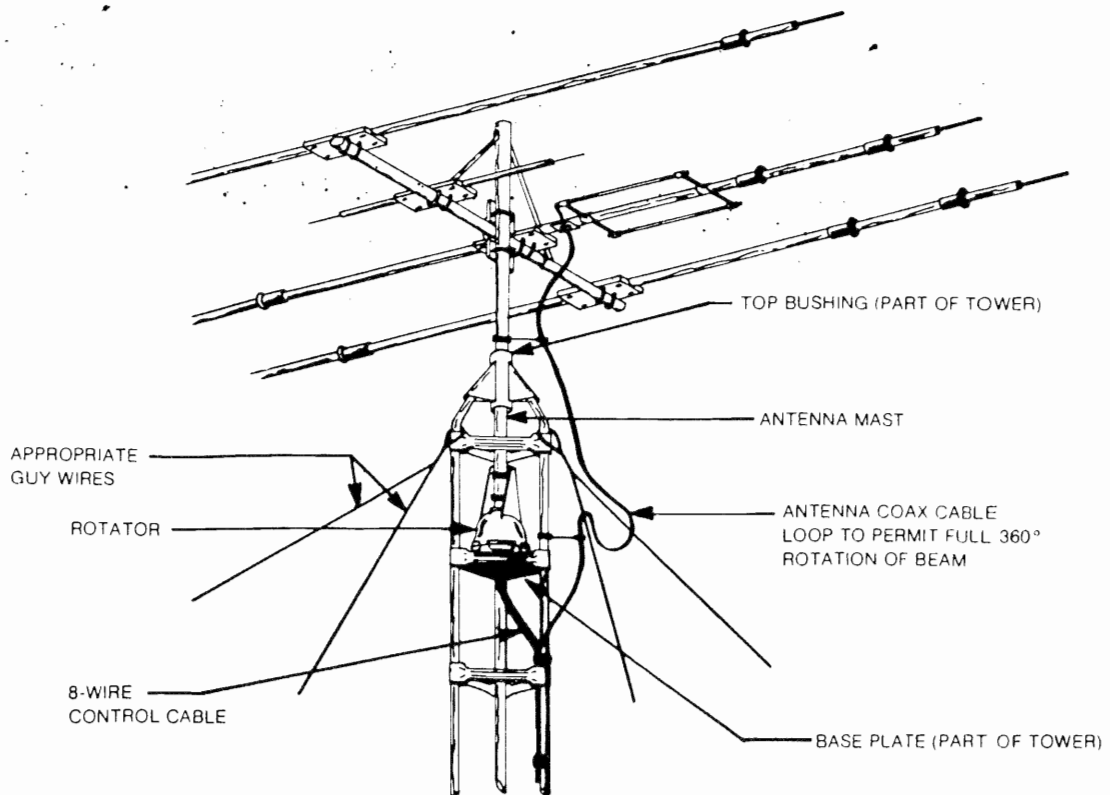

Figure 1. Inside Tower Mounting
- D. When *not mounted* within a tower with a thrust bearing as shown in Figure 1, the rotator must be *derated*.
There are three general types of installations. See Figures 1, 2 and 3.
1. The recommended installation is an "inside" tower mount, as per Figure 1, with a top bushing or bearing to provide lateral support and resist high wind loads. The wind loading during storms, the rotational inertia of the antenna and unbalanced weight are more important than the dead weight of the antenna. It is important to minimize the height of the antenna above the rotator to decrease the overturning force induced in a high wind (see "Unbalanced Weight" and "Wind Pressure").
The rotator is mounted inside a tower (see Figure 1) to the flat tower plate by means of four bolts furnished in the hardware kit. Use the following procedure: